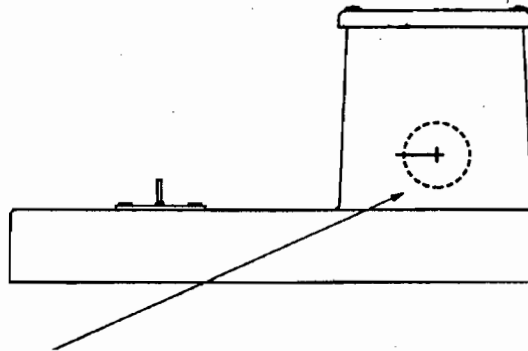

Fig. 1
15. If additional fixture(s) are being added to your installation, a 2" rubber pipe seal must be inserted in the tank Refer to Fig. 1 for location.
Note: The bottom of the additional fixture, a 3" diameter hole, must be 5" minimum above the base of the tank as shown in Figure 1.